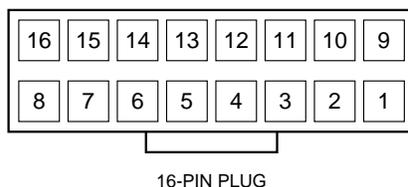

Fig. 7—Wiring Harness 16-Pin Plug
- Check for 24v between pin-1 and pin-12 on the 16-pin plug. (See Fig. 7.) If no voltage is present, replace wiring harness. If voltage is present,
jumper screw terminal R-Y/Y2 on circuit board and check for 24v between pin 1 and pin 12 and pin 1 and pin 14 on 16-pin plug. (See Fig. 7.) If voltage is present, replace harness.